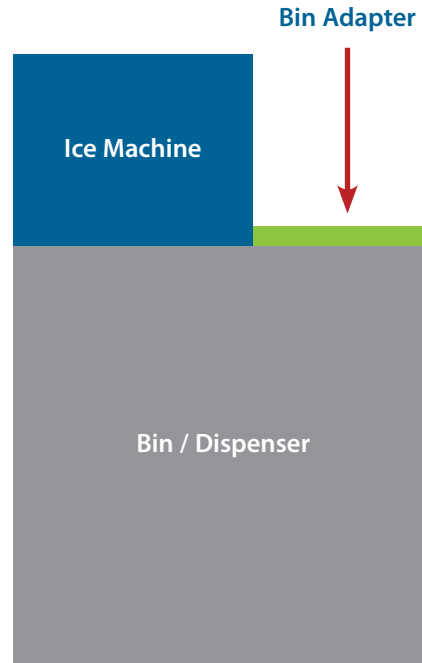

Fig. 5. TCIM installed on the left side of the bin / dispenser.
- TCIM on the left side (configuration 1; see fig. 5)